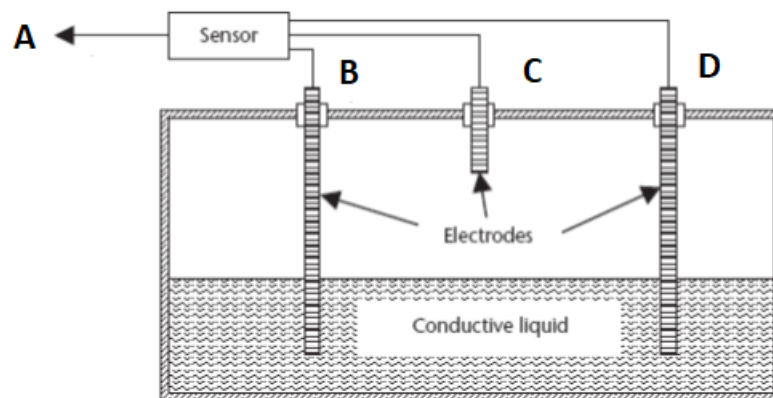

Figure 2(a)/ Rajah 2(a)
- (a) Conductive probes could be used for level setting. Label the conductive probe A, B C and D in Figure 2(a).